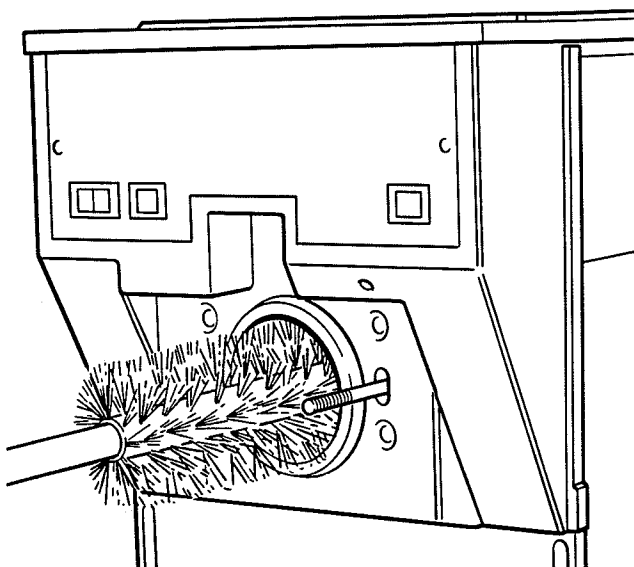

Figure 25. Cleaning Freezer Barrel
- B. Wash the hopper and freezer barrel with warm detergent water and brushes provided (Fig. 25).